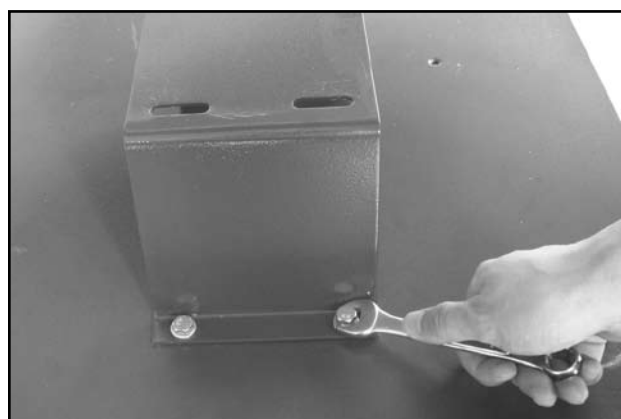

Fig. 02
2. Place a washer over a hex bolt and insert through the motor base into the the threaded hole in the base plate and tighten (Fig. 02).